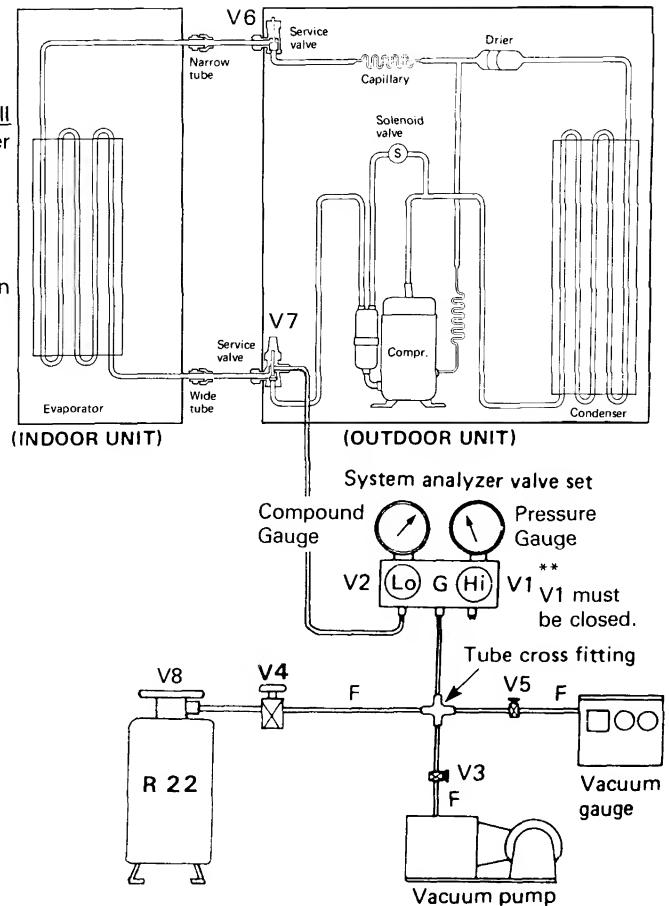

Fig. 21
2) Confirm that both Narrow Tube and Wide Tube service valves on the outdoor unit **V6** and **V7** are fully opened, and other valves are still closed. (Refer to Fig. 21)
- 1) Connect instrument as in Fig. 21.